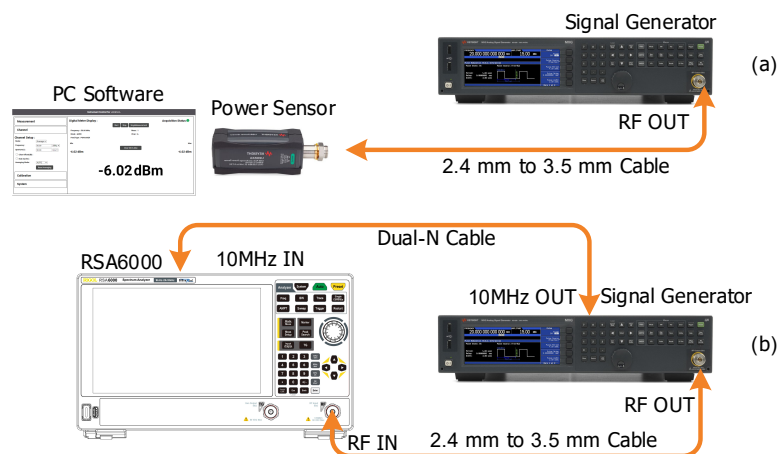

Figure 4.4 Frequency Response Test Connection Diagram
2. Connect the output terminal of the signal generator with the power sensor, as shown in *Figure 4.4 (a)*.
8. Connect the output terminal of the signal generator with the RF input terminal of the spectrum analyzer, as shown in *Figure 4.4 (b)*.